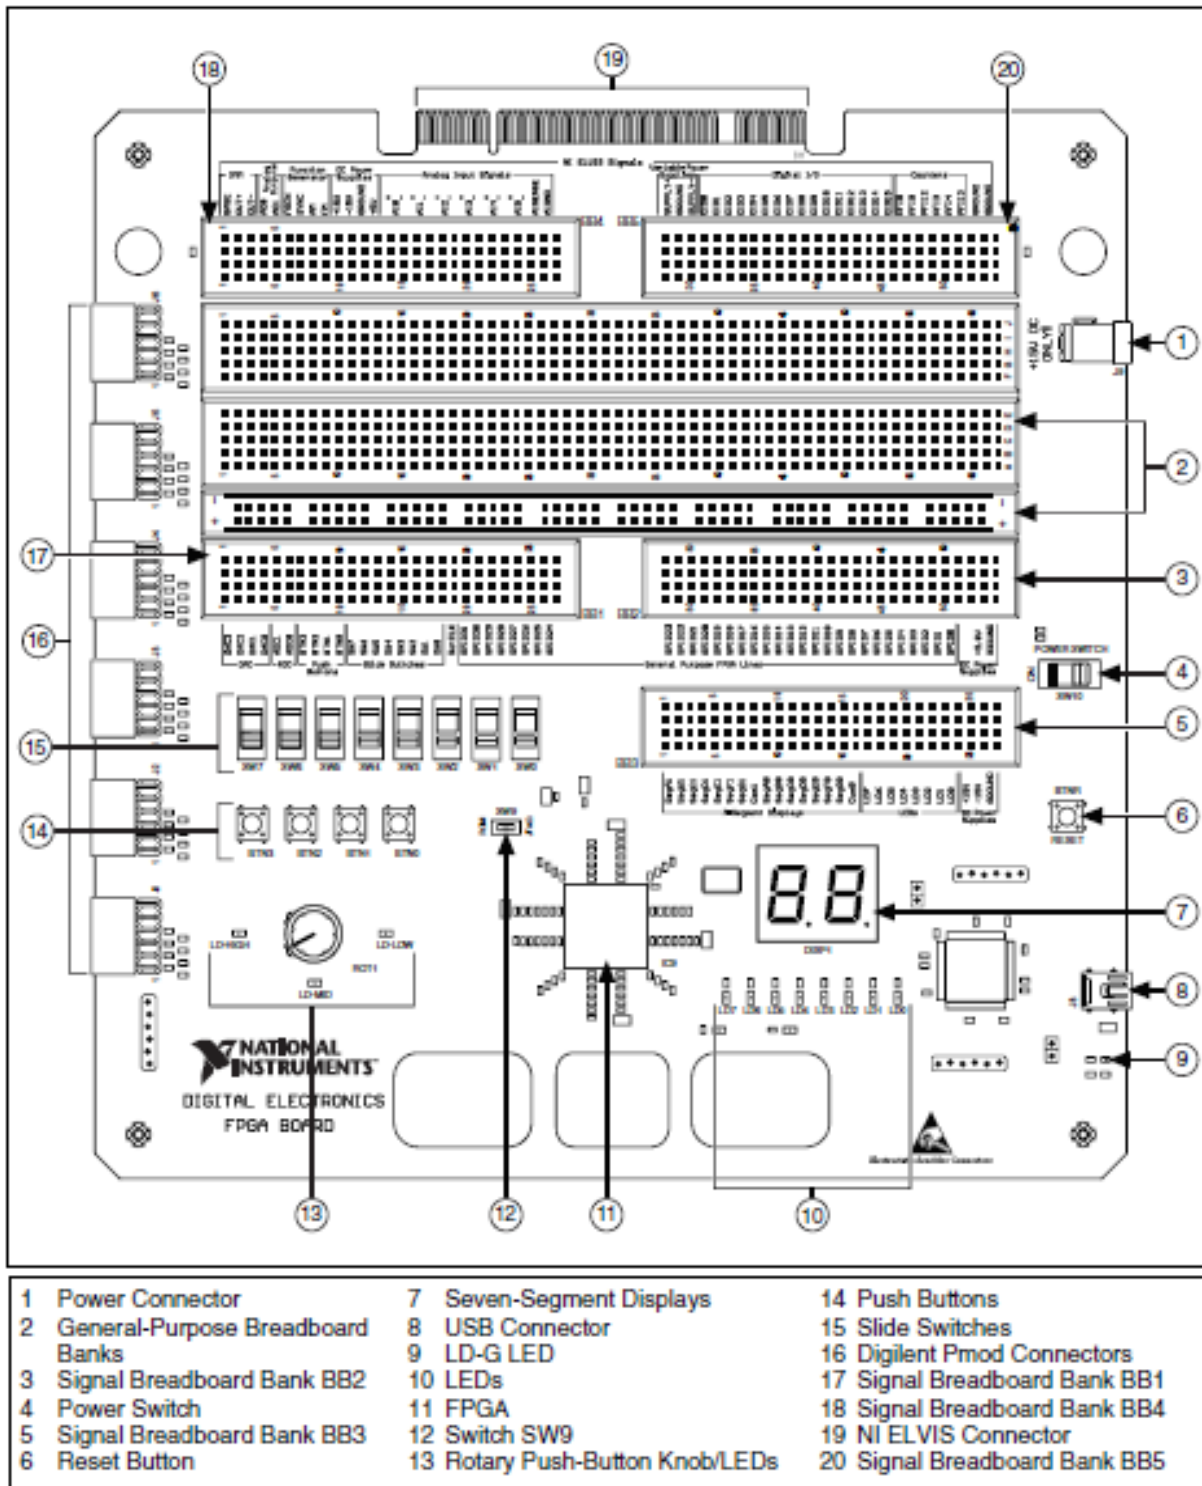

Figure 2: The NI Digital Electronics FPGA Board
3.1. The NI FPGA board features (shown in Figure 2.):
- Eight slide switches, SW0 through SW7 (15)
- Four momentary-contact push-buttons, BTN0 through BTN3 (14)
- Eight individual surface-mount LEDs, LD0 through LD7. Each LED is connected on one side through a 390Ω current-limiting resistor to the power line (10)
- Two digit seven-segment display, DISP1, in a common cathode configuration. (7)
- Rotary push-button knob, ROT1, that is used to set the frequency range and value inside the range for an external clock generated by a microcontroller. (13)